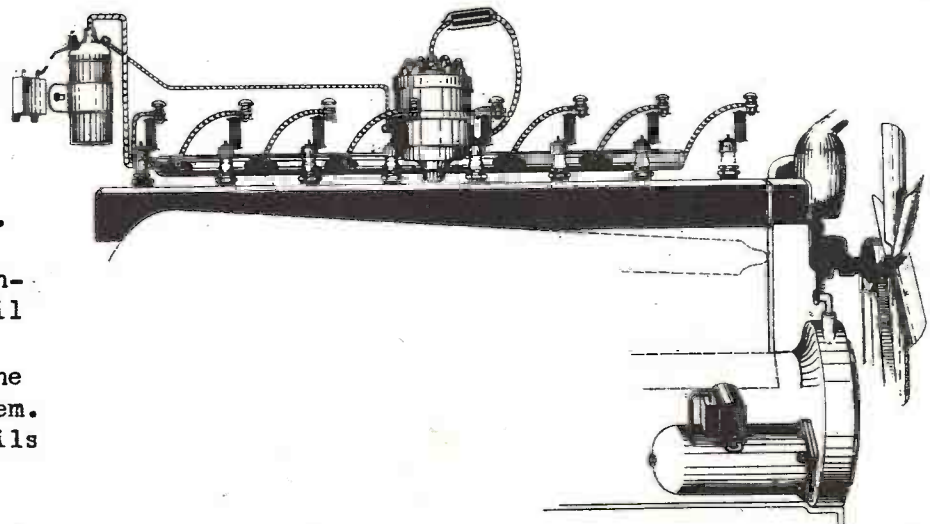

Fig. 107 - Resistors on spark plugs to reduce noise.
(3) Interference Problems. A 25,000-ohm resistor is placed in series with each spark-plug lead to suppress high-frequency oscillations. See Fig. 107. A similar resistor is placed in the high-tension lead between the coil and the distributor. These have negligible effect on the action of the ignition system. In all types of ignition coils a certain amount of "kick-back" voltage is impressed on the primary winding by the high-tension side. This finds